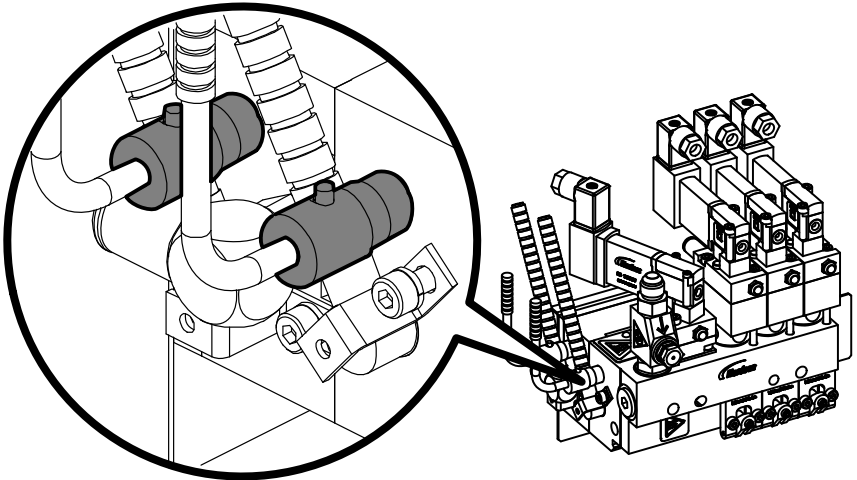

Figure 13: RTD bayonet adapter locations
4. See Figure 13. Press in the RTD bayonet adapter, rotate the adapter approximately  $\frac{1}{4}$ -turn clockwise, and remove the RTD. The cordset should now be completely disconnected from the applicator.